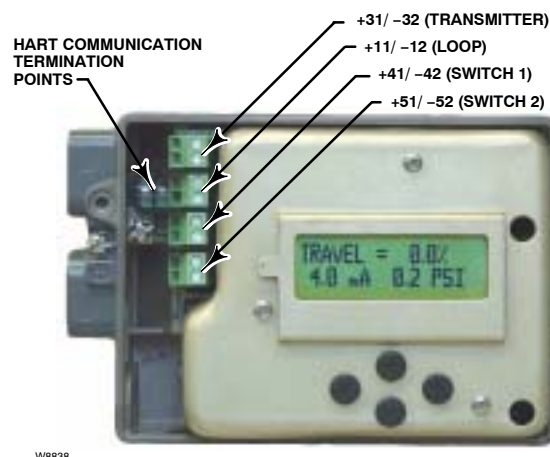

Figure 2-13. Loop, Transmitter, and Limit Switch Terminals
3. Connect the control system input card positive wire "switch input" to the +41 terminal. Connect the control system input card negative wire "switch input" to the -42 terminal. Refer to figure 2-13.
3. Connect the control system input card positive wire "current input" to the +31 terminal. Connect the control system input card negative wire "current input" to the -32 terminal. Refer to figure 2-13.
A HART communicating device, such as a Model 375 Field Communicator or a personal computer running AMS ValveLink Software communicating through a HART modem, interfaces with the DVC2000 Series digital valve controller. You can connect at any point on the 4–20 mA loop. Alternatively, convenient termination points are located on the termination board (figure 2-13). The instrument must be powered before digital communication will commence.